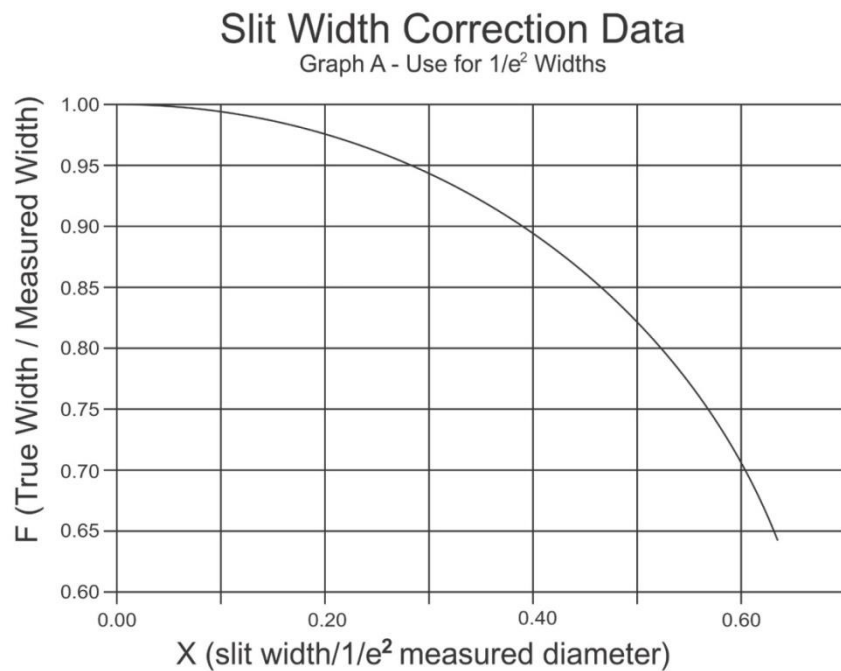
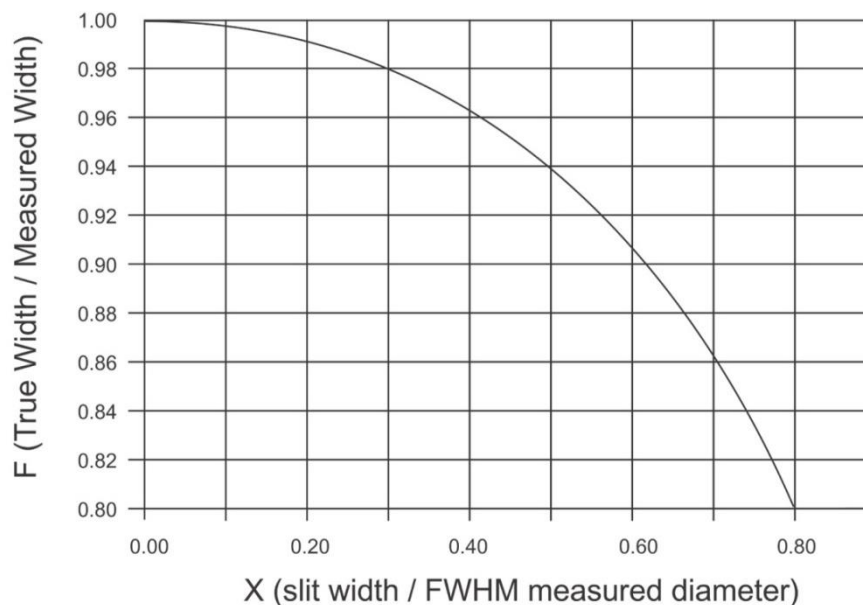

Figure 4.19 Slit Width Correction Data for $1/e^2$ Measured Width
Figure 4.20 Slit Width Correction Data for FWHM Measured Width
The graphs in Figure 4.19 and Figure 4.20 are provided so that the actual width of the Gaussian profile, $G(x)$, can be easily determined from the width of the profile $M(x)$. These corrections have been computed for the two most commonly used threshold fractions, $1/e^2$ and FWHM. When other values of the threshold fraction p are used, the semi-empirical formula for F provides a closer approximation to the correction factor, provided that the slit width parameter x remains less than 0.5. The procedure for using these graphs to determine the true beam width of a Gaussian profile beam follows. (For distributions other than Gaussian, these corrections may be invalid. We believe the best condition is to use a sufficiently small slit, and Ophir-Spiricon offers standard slits in 1.8 μm , 5 μm , and 25 μm sizes.)
1. Use the graph in Figure 4.19 for all corrections if beam diameters are measured to the $1/e^2$ (13.5%) points. Use the
graph in Figure 4.20 if the beam diameters are measured to the half-intensity points (FWHM).